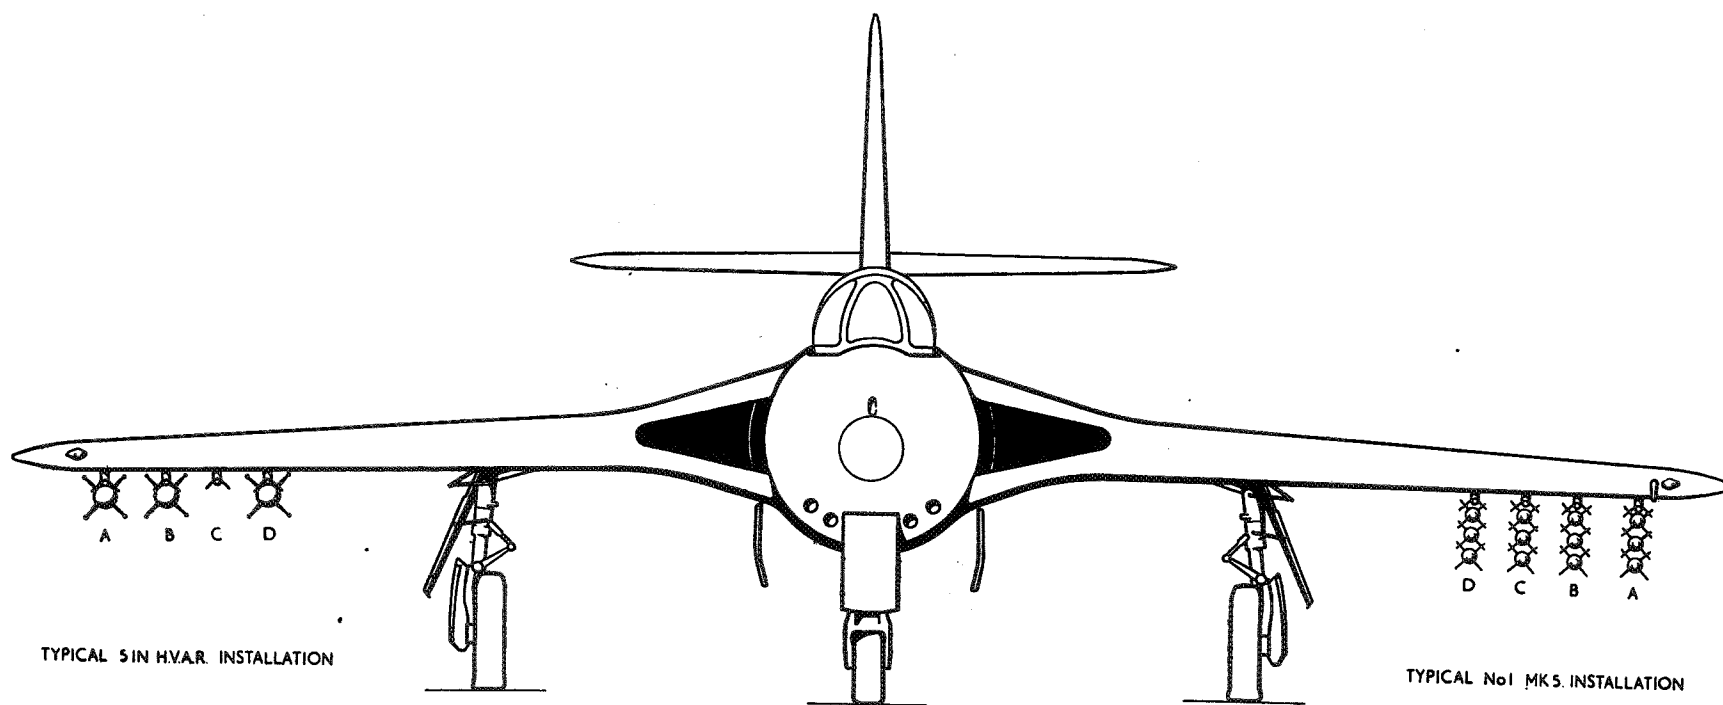

Fig. 3. R.P. installation
2. The rocket projectiles are carried either singly or in tiers of up to three on each of four sets of Mk. 12, Type 3 launcher rails under each outer wing. The alternative types of R.P. store that may be fitted and the quantity carried at each station are shown on fig. 3. The launcher rails are identified as rails A, B, C and D on each wing, rail A being outboard. The launcher rails are located on the underside of the wings as follows:—
- (1) When the aircraft is being armed with 5 in. H.V.A.R. projectiles, these are to be mounted in single tier on rails A, B and D only, leaving rail C unloaded (*fig. 3*).
- (2) On aircraft in which Mod. 427 has not been incorporated at launcher rail B, the electrical cable connecting from the wing to the store must be passed outboard and forward of the rear mounting post in the wing. All slack cable is to be pulled back and stowed in the fairing and rail to clear the aileron control linkage.